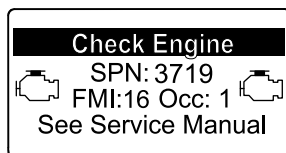

Figure 40
- Engine warning SPN 3720, FMI 16 (Figure 40)